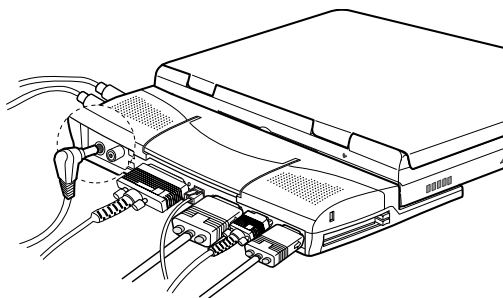

Figure 6. Connecting the AC adapter
7. Connect the AC adapter to the power cord connector before turn the computer on or wake up from the REST Mode. (Figure 6)